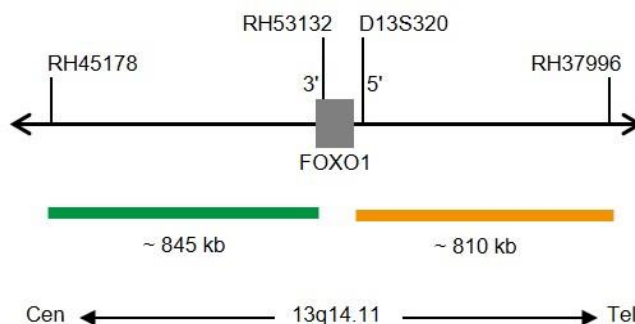

Fig. 1: SPEC FOXO1 Probe map (not to scale)
- ZyGreen (excitation 503 nm/emission 528 nm) labeled polynucleotides (~10 ng/μl), which target sequences mapping in 13q14.11* (chr13:40,285,558-41,132,595) proximal to the FOXO1 breakpoint region (see Fig. 1).
- ZyOrange (excitation 547 nm/emission 572 nm) labeled polynucleotides (~4.5 ng/μl), which target sequences mapping in 13q14.11* (chr13:41,246,917-42,054,781) distal to the FOXO1 breakpoint region (see Fig. 1).